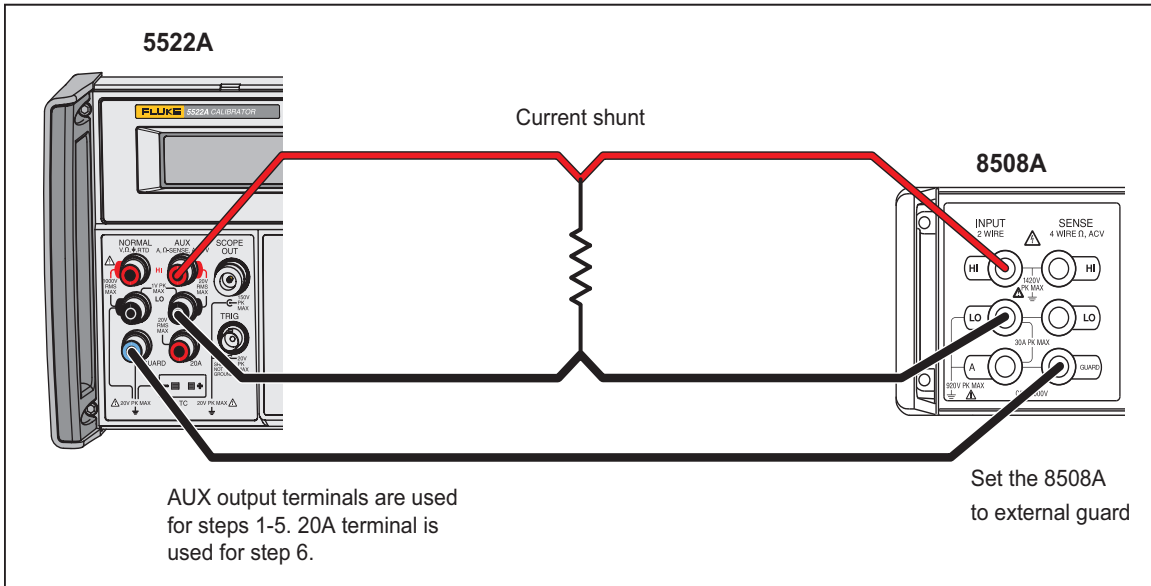

Figure 3-6. DC Current Calibration Connections
5. Connect the 8508A and 742A-1k Resistance Standard to the UUT as shown in Figure 3-6.